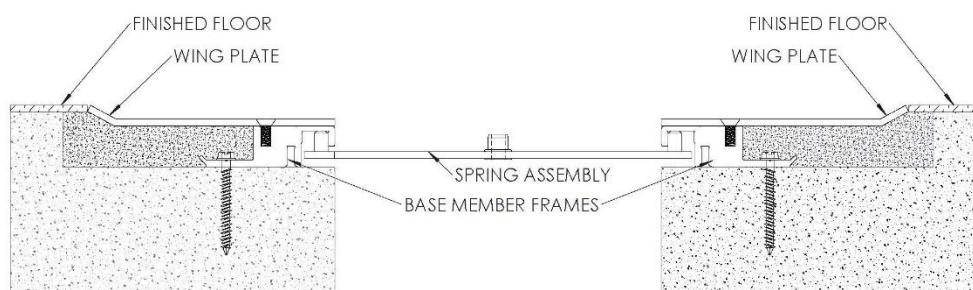

FIGURE 6
6. Lay cover plate over the left base frame with ends flush and mark cover plate center holes onto the base frame near the inside edge. Repeat this on the right side. Position the spring assembly in the spring track on the base frames. This is done by sliding the spring assemblies in from the ends of the frames and aligning them with the marked locations. The spring assemblies will be diagonal to the opening. Tape may be needed to hold the spring assembly in place. **See Figure 6**